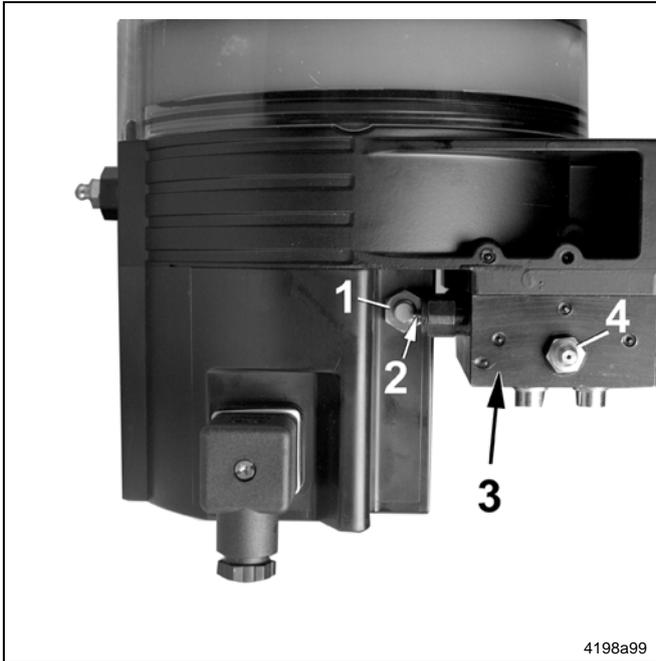

Fig. 17 QLS 301 with back position of the SSV metering device
- If the proximity switch (pos. 1, fig. 17, page 17) does not give any feedback after the pause time has elapsed or after triggering additional operating cycles within **15 minutes** (AC monitoring time) or **25 minutes** (DC monitoring time), the pump switches off immediately. The flashing fault indication * Er * (Error) appears on the display.